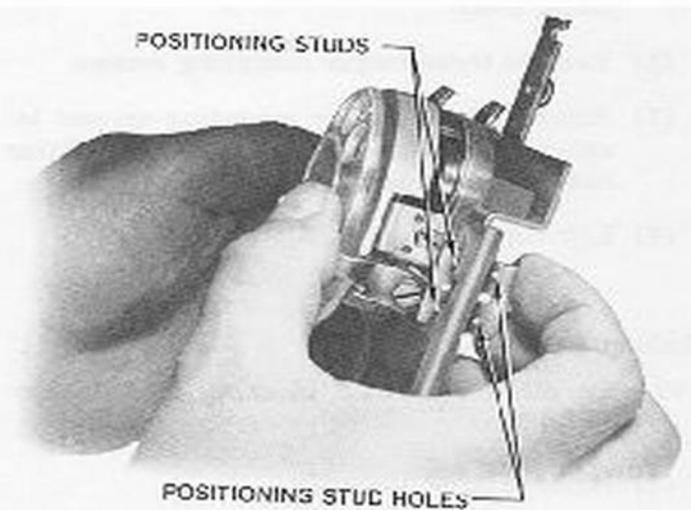

Fig. 29 – Placing Rotary Dial in Dial Mounting Plate
- (1) Grasp dial mounting plate in hand.
- (2) Grasp dial in other hand and lower one side of dial into dial mounting plate until positioning studs engage positioning holes (Fig. 29).
- (3) Hold opposite side of dial mounting plate on fingers and with thumb in a position above dial finger stop. Press downward until positioning studs snap into positioning holes (Fig. 29).